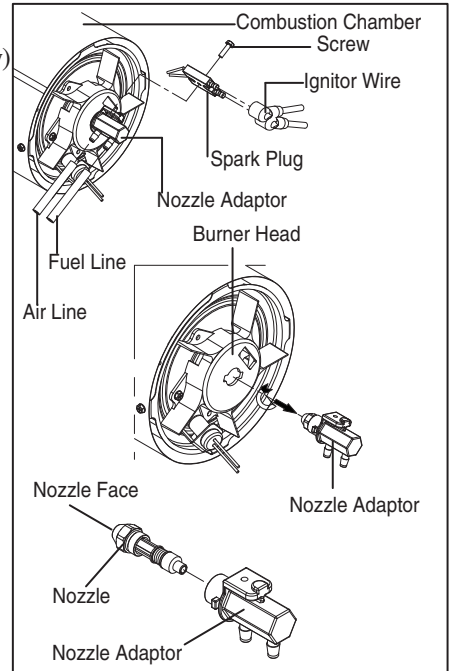

**Figure 14. Nozzle Replacement**
- Turn nozzle adaptor 1/9 turn(40°) to counter clock wise and pull toward motor to remove. (See Figure 14)